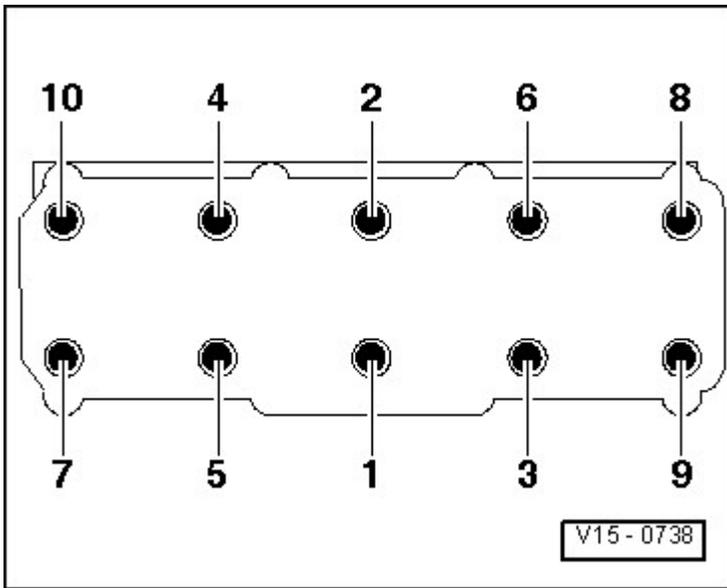

Fig. 8: Cylinder Head Bolt Tightening Sequence
- Tightening specification and sequence **Fig. 8**